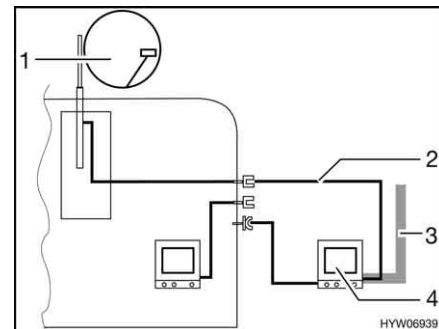

Fig. 187 TV in the awning
- TV inside the awning (Fig. 187,4): Connection to roof antenna (Fig. 187,1) with connection cable (Fig. 187,2)
- TV inside the awning (Fig. 187,4): Connection to external antenna (Fig. 187,3)